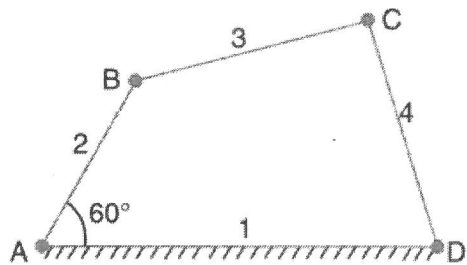

Fig: 2
- 2 Locate all the instantaneous centres for a four bar mechanism as shown in Fig. 2. The lengths of various links are : AD = 130 mm ; A B = 65.5 mm ; BC = CD = 80 mm. If the link A B rotates at a uniform speed of 10 r.p.m. in the clockwise direction, find the angular velocity of the links BC and CD. MM:10 CO1